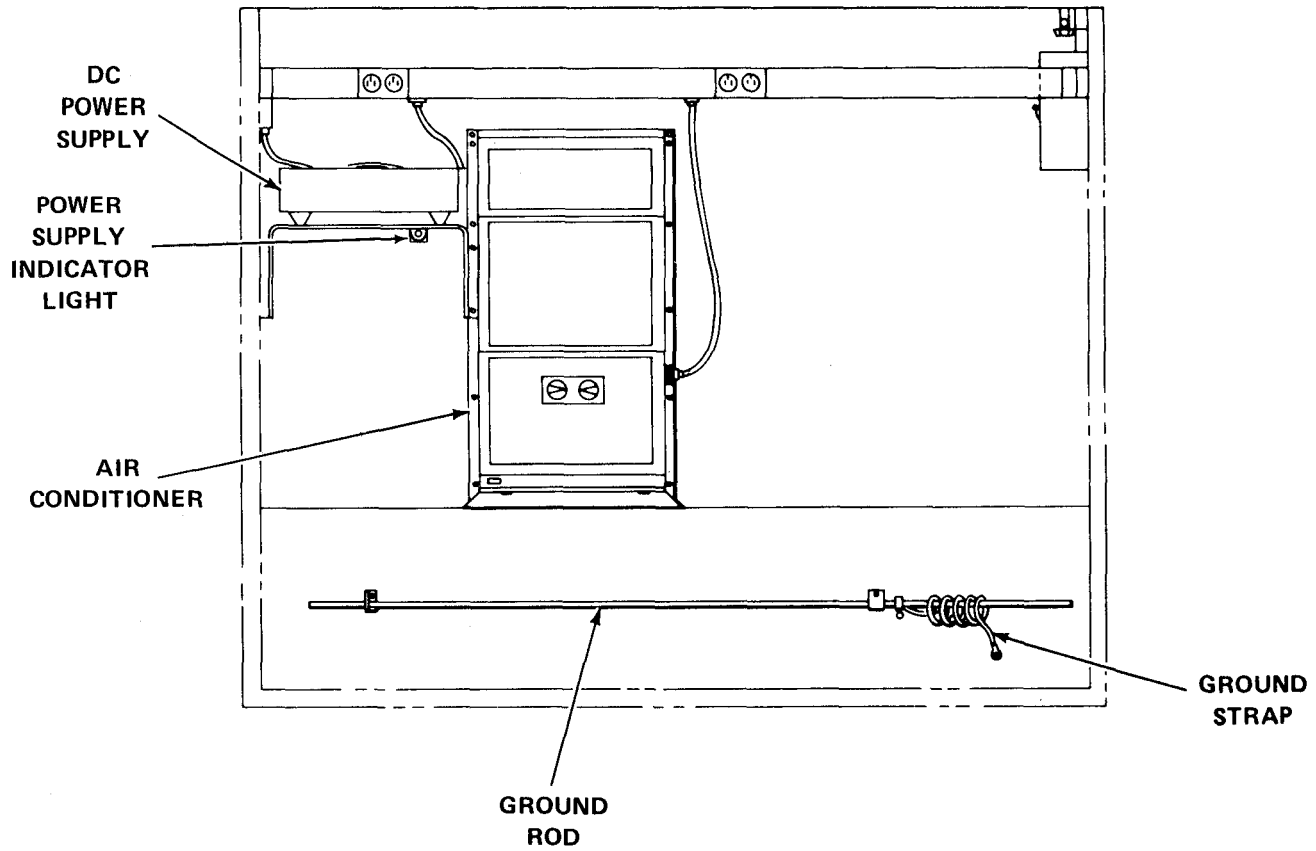

Figure 1-2. Shelter Interior, Curbside Wall
c. Shelter Interior. Refer to figures 1-2 through 1-5.